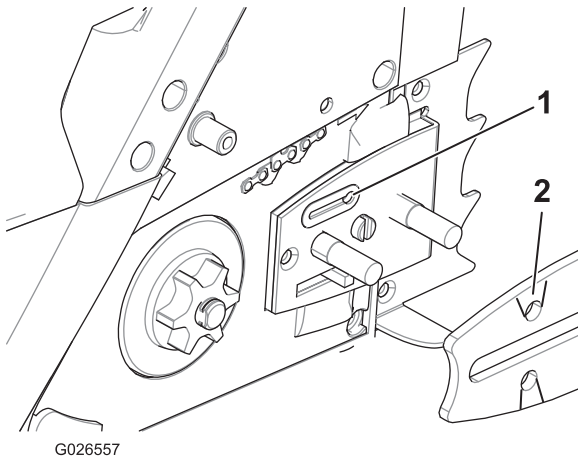

Figure 28
4. Check the bar grooves and the oil passage hole for debris, and clean it if necessary (Figure 28).